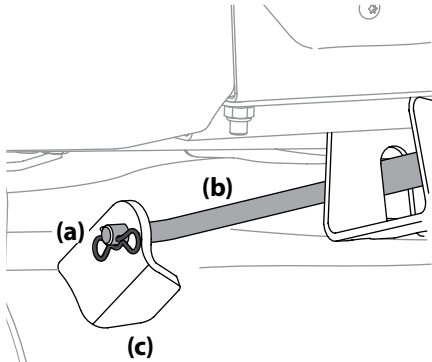

Figure 4-18
9. Pull the cotter pin (a) out of the front deck lift rod (b) securing it to the deck. See Figure 4-18. Slide the deck lift rod out of the front hanger bracket (c).
6. Reinstall the front deck lift rod and secure in place with the cotter pin. Refer to Figure 4-18.